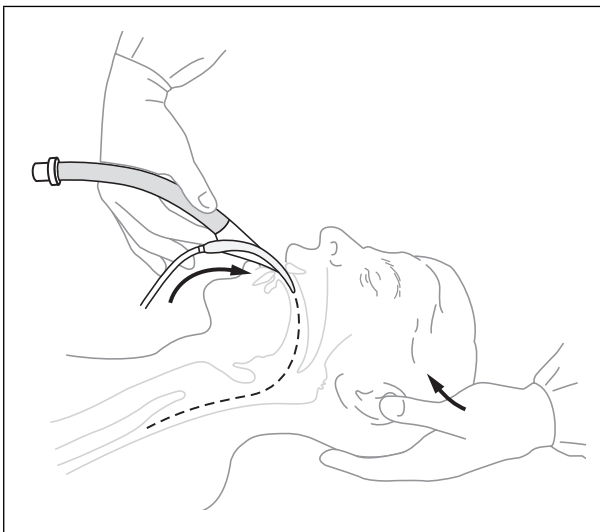

Figure 2
Keep the neck flexed and the head extended by pushing the head from behind with one hand while inserting the mask into the mouth with the other hand (**Figure 2**).
3. When inserting the mask, hold it like a pen with the index finger placed anteriorly at the junction of the cuff and tube (**Figure 2**). Press the tip up against the hard palate and verify it lies flat against the palate and that the tip is not folded over, before pushing further into the pharynx.